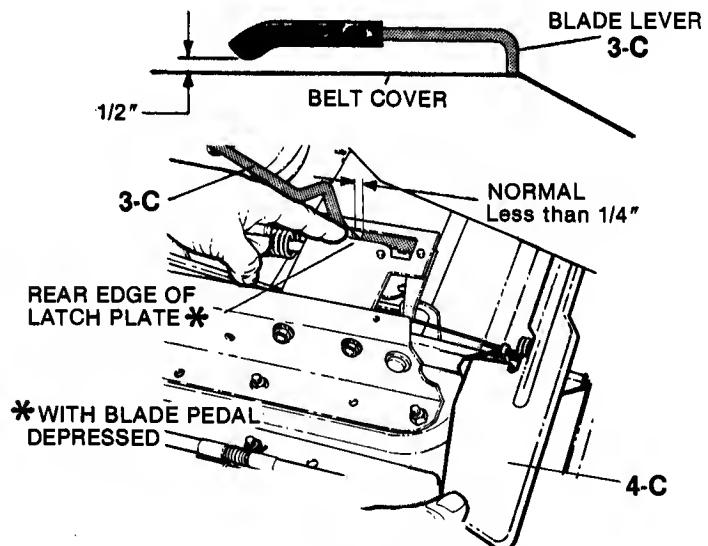

FIG. 10 - BLADE LEVER TRAVEL
STEP 4: Release the BLADE pedals to allow the BLADE lever to move to the OFF position, then depress the BLADE pedals again and check the clearance between forward edge of the BLADE lever and the rear edge of the latch plate which should be less than $1/4"$ (FIG. 10). Repeat the procedure in step 2 if needed to obtain correct clearance. When correct, hold the BLADE lever rearward and turn the jam-nut tight against the T-nut to lock in new position. Reinstall BELT COVER.